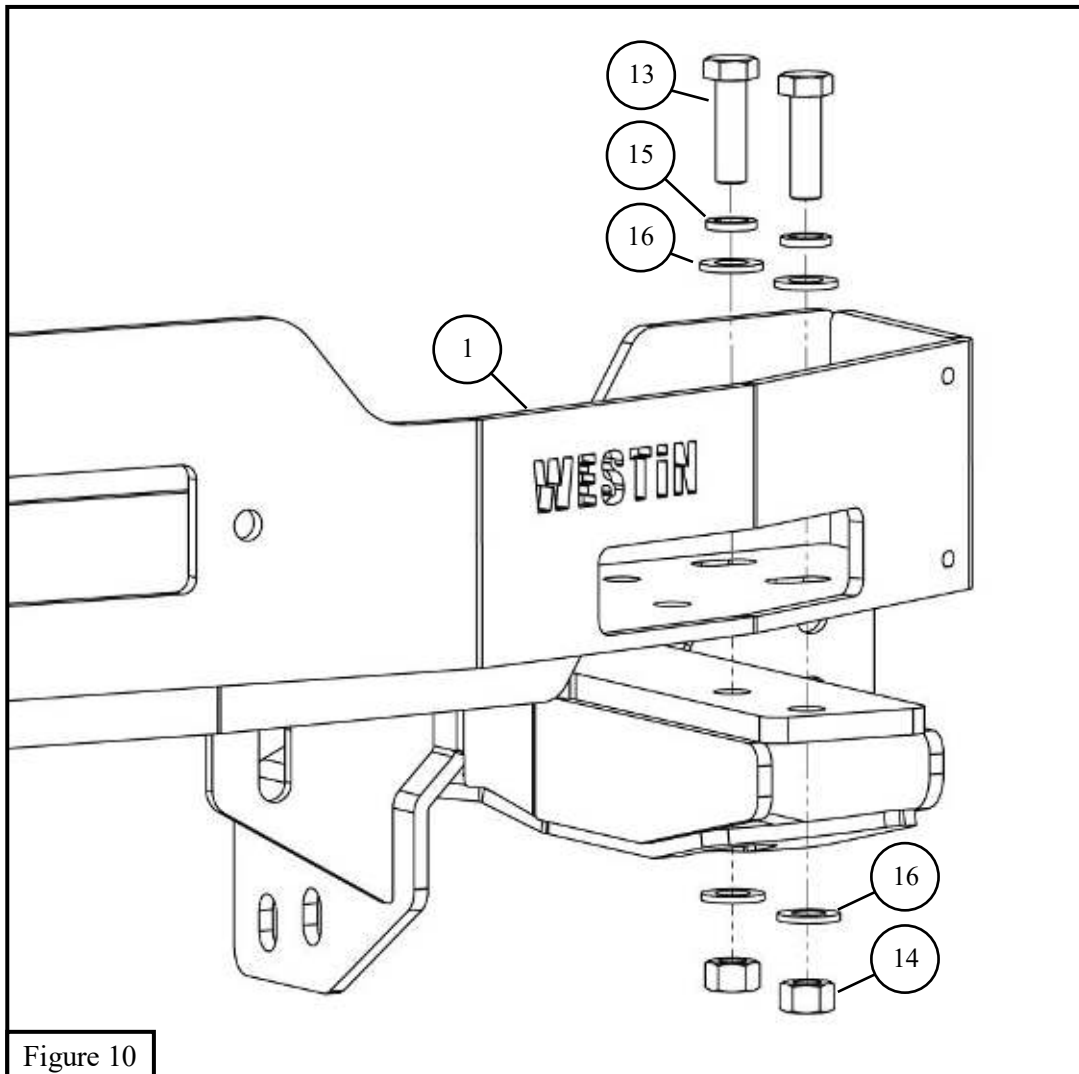

Figure 10
19. Install the winch tray (**item 1**) onto the winch tray brackets using the M12 hardware (**items 13-16**). See **Figure 10**.